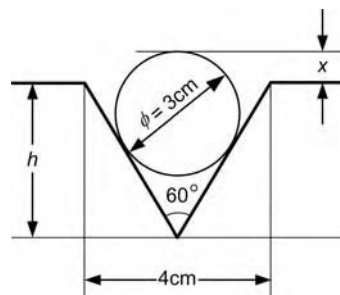

Figure 2.39
- A cylindrical bar rests in a vee-block as shown in Figure 2.39. Determine the vertical height of the vee-section (h) and the height (x) that the cylindrical bar is raised above the top surface of the vee-block.